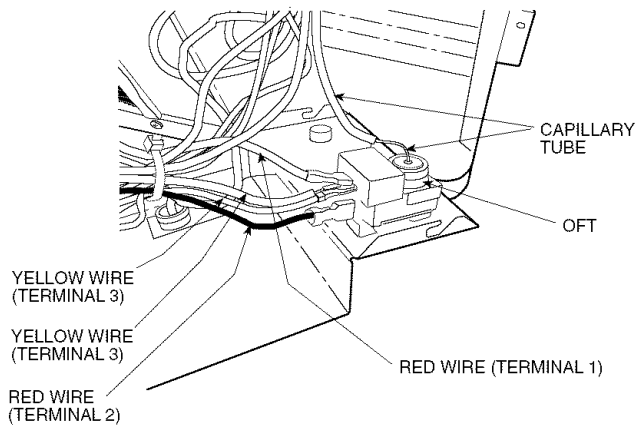

Fig. 11 — Outdoor Coil Freeze Thermostat (OFT) on PTAC Heat Pump Units
13. Attach red wire from Heat1 on relay K2 to terminal 2 of OFT. See Fig. 11.
14. Attach yellow wire from COMP of relay K1 (with piggy back male terminal) to yellow wire already attached to terminal 3 of OFT. Attach both wires back on terminal 3 of OFT. See Fig. 11.